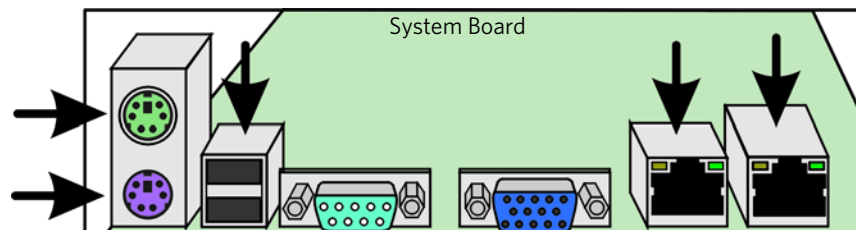

Figure 17: RFI-clip positions, external view
**Attention: Do not bend or damage the RFI clips.** Make sure that the five RFI clips make firm contact with the external-port connectors. See Figure 17.